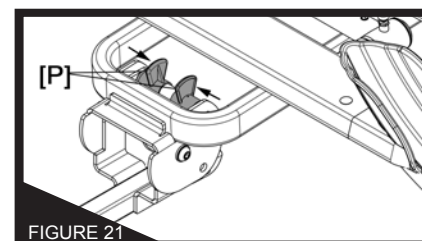

FIGURE 21
1. While lifting rack slightly, squeeze release tabs (shown in Figure 21 above). Once released, lower the rack in a controlled manner until the rack stops [Step 1]. Open rear door [Step 2].